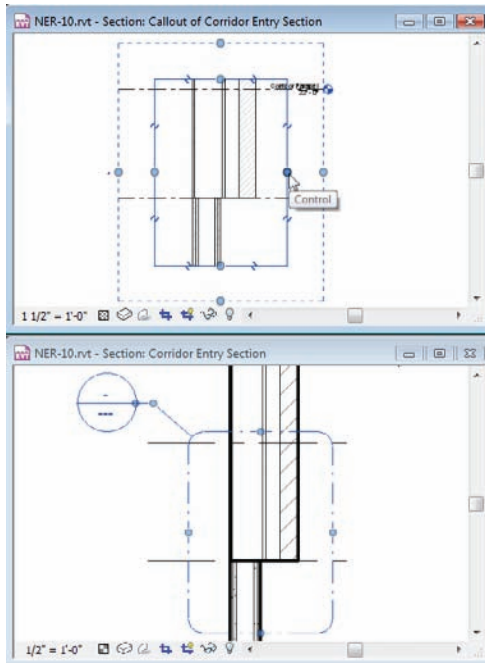

FIGURE 3.66 Modify the crop region by selecting it and stretching the grip.
Notice that the callout window is selected along with the crop region in your callout. That is because the two objects are one and the same (see Figure 3.66).
14. Stretch the crop region closer to the actual wall, as shown in Figure 3.66.